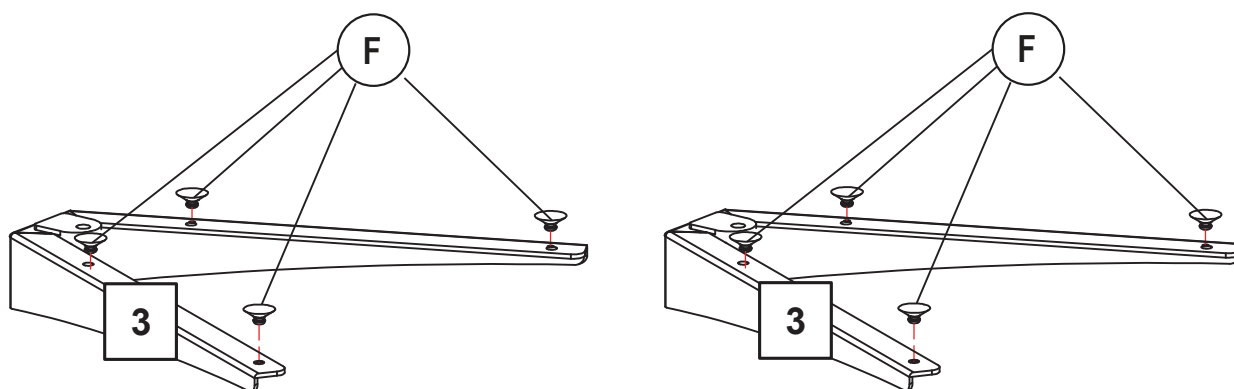

Fig. 6
Insert the eight **Glass Shelf Suction Pads (F)** into the holes on the **Shelf Supports (3)** as shown in Fig. 6.